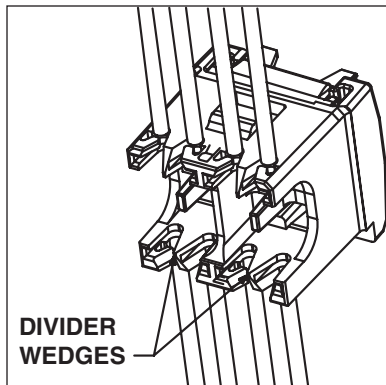

FIGURE 1:
2. Insert the prepared Wire Cap into the Wire Seating/Cutting side of the TGJT Tool. This side pocket properly aligns and holds the prepared Wire Cap in place. Make sure all twisted pairs of wires are out to the sides of the Wire Cap for proper cutting (refer to Figure 1). The ramp of the Wire Cap must be pointing upward and be inserted into the groove in the upper Cutter Blade Anvil.